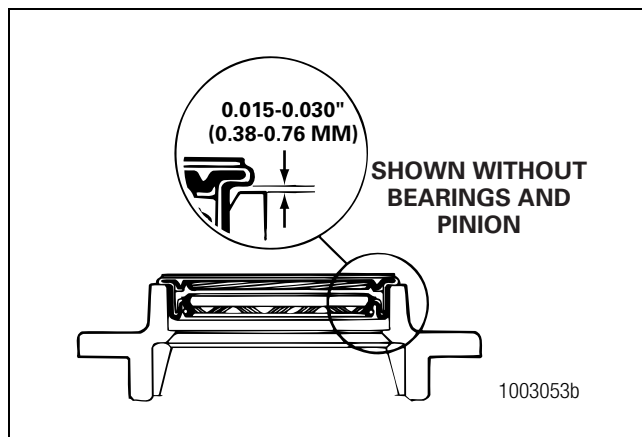

Figure 5.22
- D. After the triple-lip seal is installed, a gap of approximately 0.015-0.030-inch (0.38-0.76 mm) between the flange and bearing cage is normal. Figure 5.22.